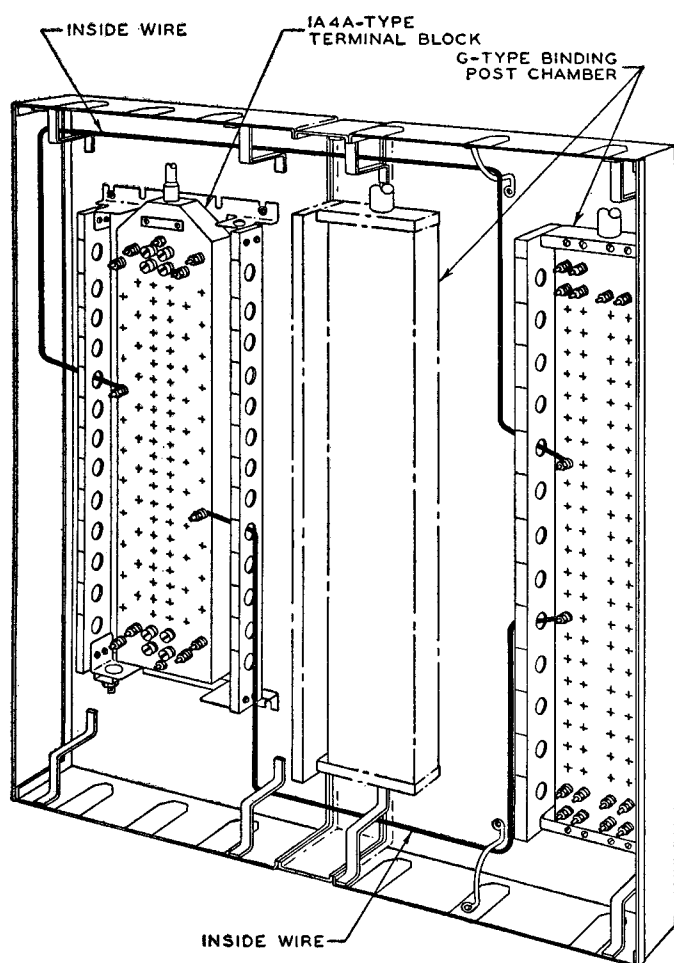

Fig. 13 — Cross Connecting in Fuseless-type Protected Terminals
9.01 Terminal blocks 1A3A and 1A4A, identical in appearance, are similar to the NH-type cable terminal. Fig. 13 and 14 show protected terminal block 1A4A-26 wiring arrangement when mounted in 1A1 and 2A1 terminal sections.